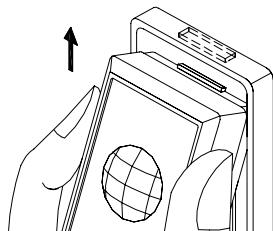
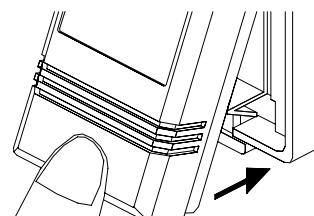

fig 4
fig 5
③ Install the transmitter case: hold the top portion of transmitter case with left hand (as fig 4) make About 10 degrees slant with wall cap then push to upper. When the protrusion transmitter case is Come into the concavity of wall cap with right hand (as fig 5). Upon hearing “KA”, the installation Is finished.